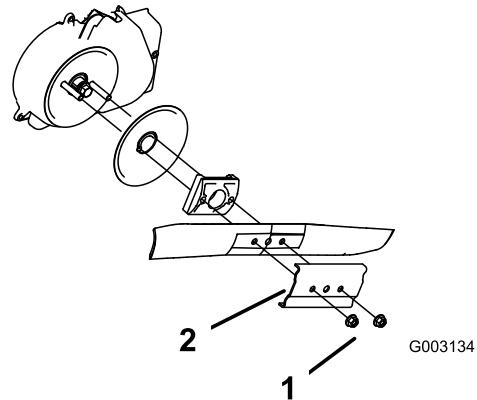

Figure 51
3. Remove the 2 blade nuts and the stiffener (Figure 51).
4. Remove the blade (Figure 51).
5. Install the new blade (Figure 51).